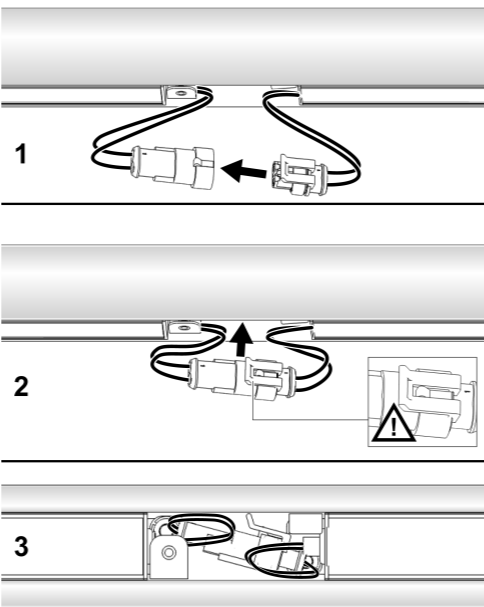

Figure 6: Linking lighting inserts
- Interlink lighting inserts (Figure 6). Observe maximum chain length of 6 meters!